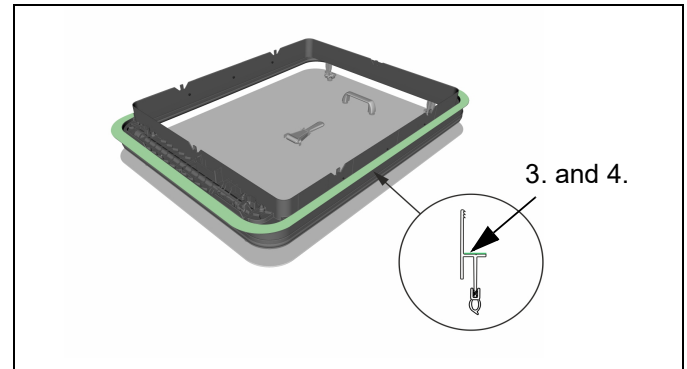

Fig. 3 Preparation of the adhesive surface of the roof hatch
2. Lightly grind the entire circumference of the bonding surface (marked green in Fig. 3) with 600 grit sandpaper or equivalent.